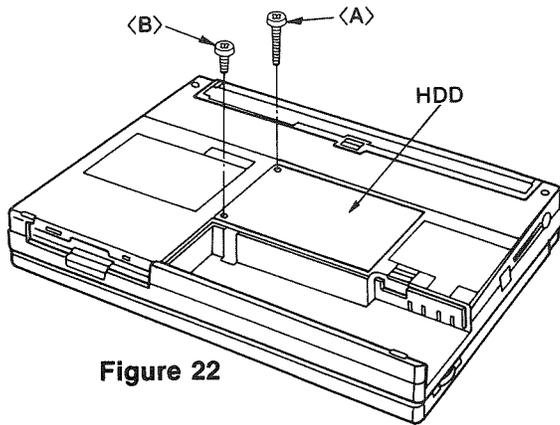

Figure 22
- (1) Close the display panel.
- (2) Turn the computer upside down and place it on a flat surface.
- (3) Remove screws <A> (2.6 × 24 mm) and  (2.6 × 8 mm) as shown in Figure 22.